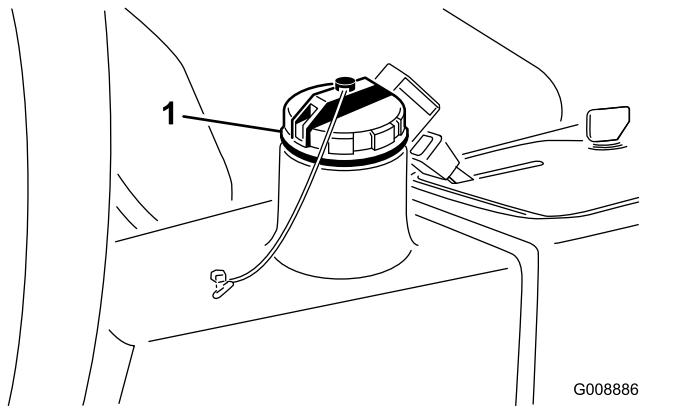

Figure 78
4. Fill the reservoir (Figure 78) with approximately 13.2 L (3.5 US gallons) of hydraulic fluid; refer to Checking the Hydraulic System \(page 21\).